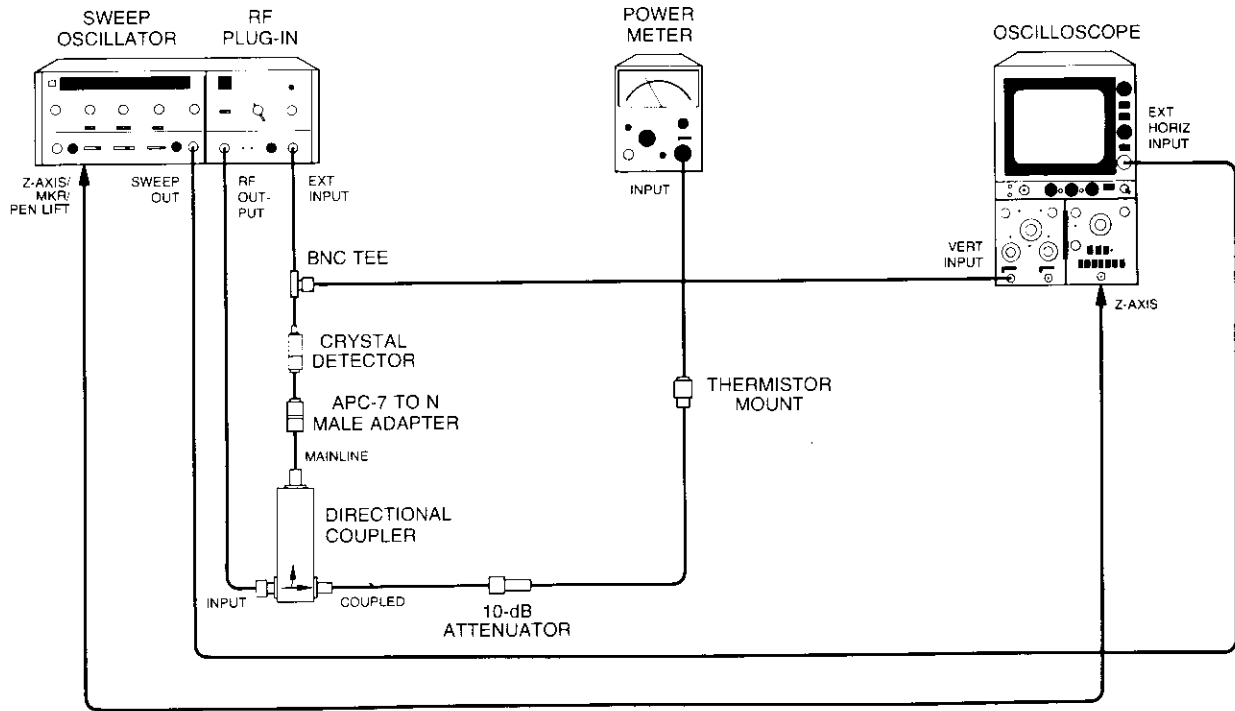

Figure 4-8. Crystal Detector Leveling Test Setup
- l. Connect equipment as shown in Figure 4-8. Allow 30 minutes warm-up time.